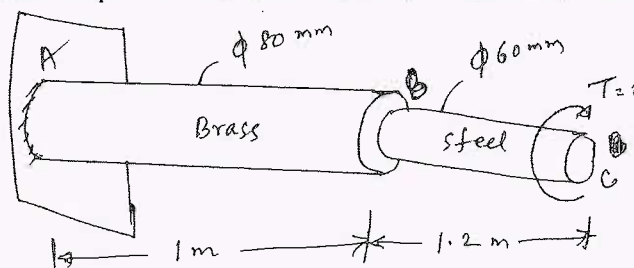

Fig.Q8(b)
- b. The allowable shear stress in brass is 80 N/mm² and in steel 100 N/mm². Find the maximum torque that can be applied in the stepped shaft as shown in Fig.Q8(b). Find also the total rotation of free end with respect to the fixed end if $G_b = 40 \text{ kN/mm}^2$ and $G_s = 80 \text{ kN/mm}^2$.